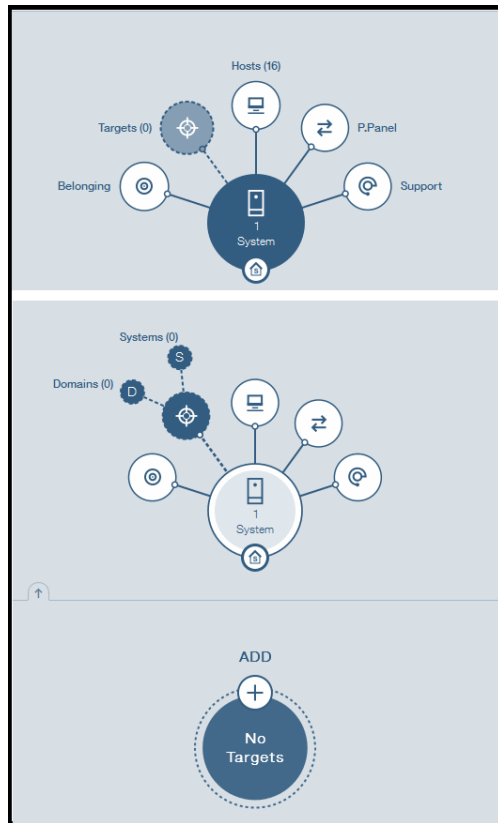

Figure 1-17 Create target
1. Add the target system by selecting the **Targets** spoke from the System Hub display and clicking the plus sign (+) to ADD a new target, as shown in Figure 1-17.